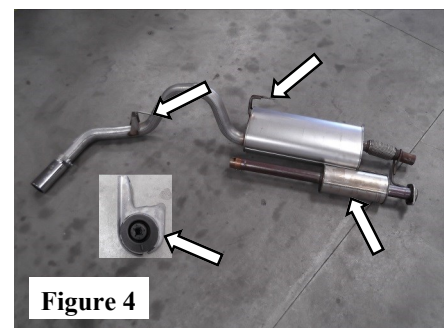

Figure 4
3. Remove the original isolator bracket from vehicle and transfer to your new Borla system. (See Fig. 4)